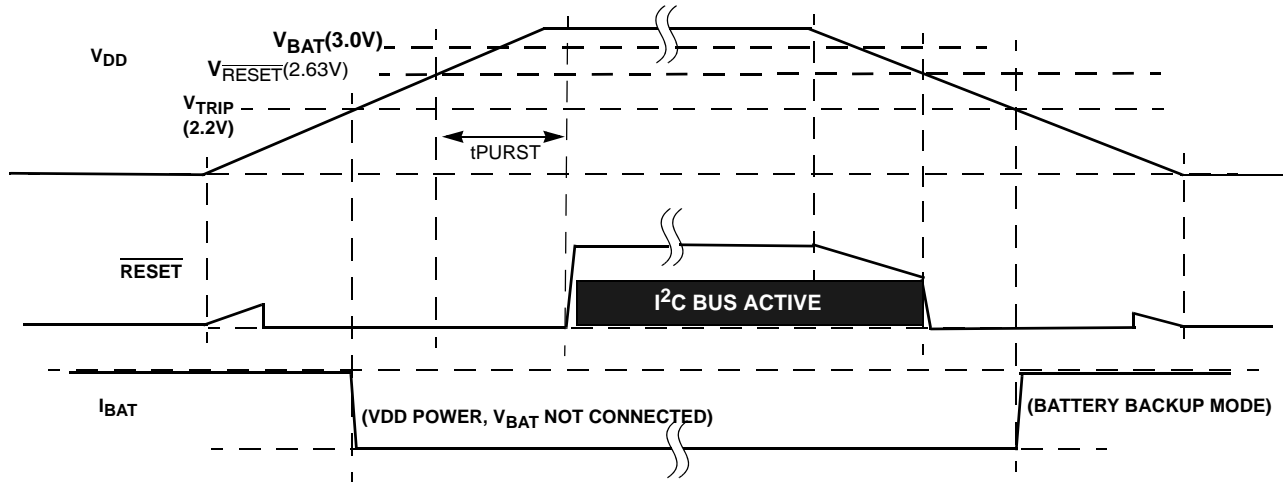

FIGURE 29. EXAMPLE RESET OPERATION IN MODE A OR C
Mode. In actuality the VDD will go below VRESET before switching to battery backup, which will disable I2C ANYTIME the device goes into Battery Backup Mode. Regardless of the battery voltage, the I2C will work down to the VRESET voltage (see Figure 29).
- Mode D - In this mode the selection bits indicate switchover to battery backup at VDD < VBAT, and no I2C communications in battery backup. This mode is unique in that there is I2C communication as long as VDD is higher than VRESET or VBAT, whichever is greater. This mode is the safest for guaranteeing I2C communications only when there is a Valid VDD (see Figure 29).